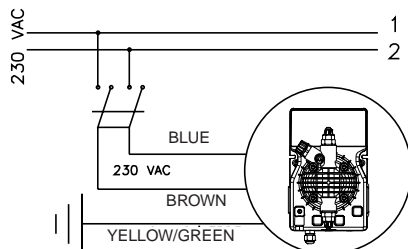

Fig. 4
1. Disconnect the pins from the mains or by means of a two poles switch with 3 mm minimum distance between the contacts. (Fig. 4).
- b. - Carefully observe the regulations in force in the various countries as regards electrical installations (Fig.4). **When the supply cable is devoid of a plug, the equipment should be connected to the supply mains by means of a two-poles switch having a minimum distance of 3 mm between the contacts. Before accessing any of the electrical parts, make sure that all the supply circuits are open.**